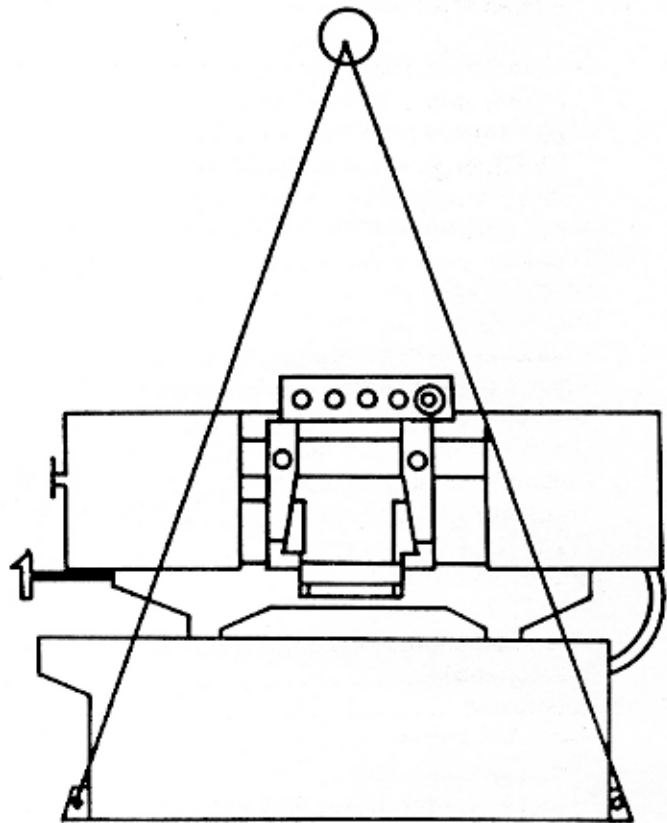

Fig. 1
1. Using lifting straps that are isolated from the bandsaw's finished surfaces, lift machine place in desired location. See figure 1 for strap placement.